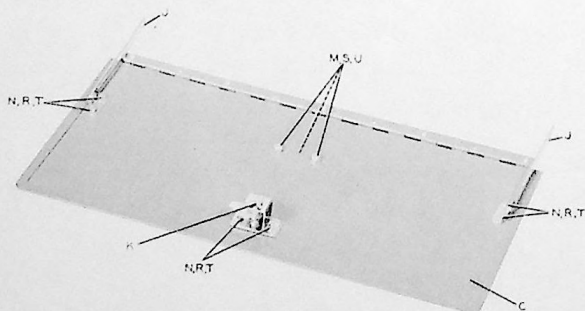

Figure 2-1. 499G-1 Rack Mounting Shelf,
2.2.3.2 FRONT DOOR ASSEMBLY. (See figure 2-1.)
- c. See figure 2-1. Attach the two lid supports, item J, to the rear of the door with the slotted arm adjacent to the edge of the door. Use two each of items N, R, and T on each support.